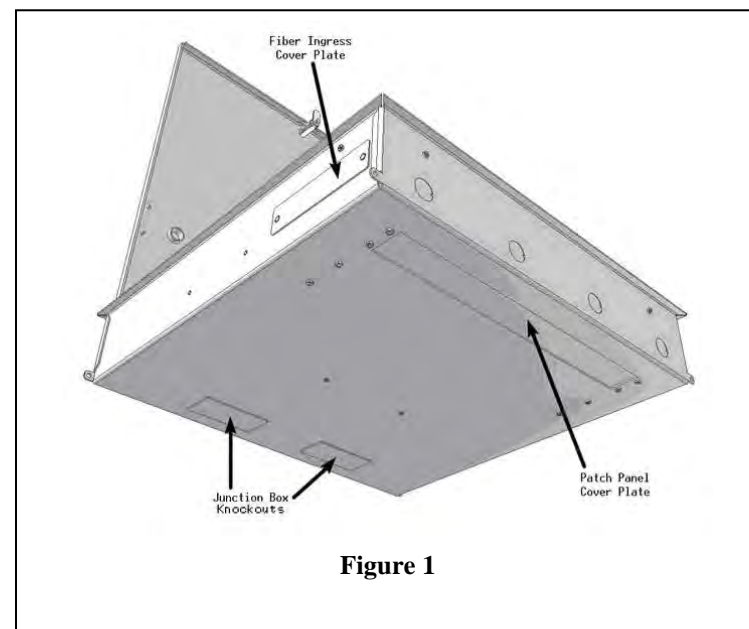

Figure 1
**Step 1** – Place the *multimedia ceiling enclosure assembly* on the work surface with the door facing up and keyed doorway unlocked. If applicable, remove patch panel and fiber ingress cover plates (Figure 1) located on the outside edge and back of the box (near key lock) and install patch panel and CCH style fiber optic adapter panel according to the manufacturer's specifications.